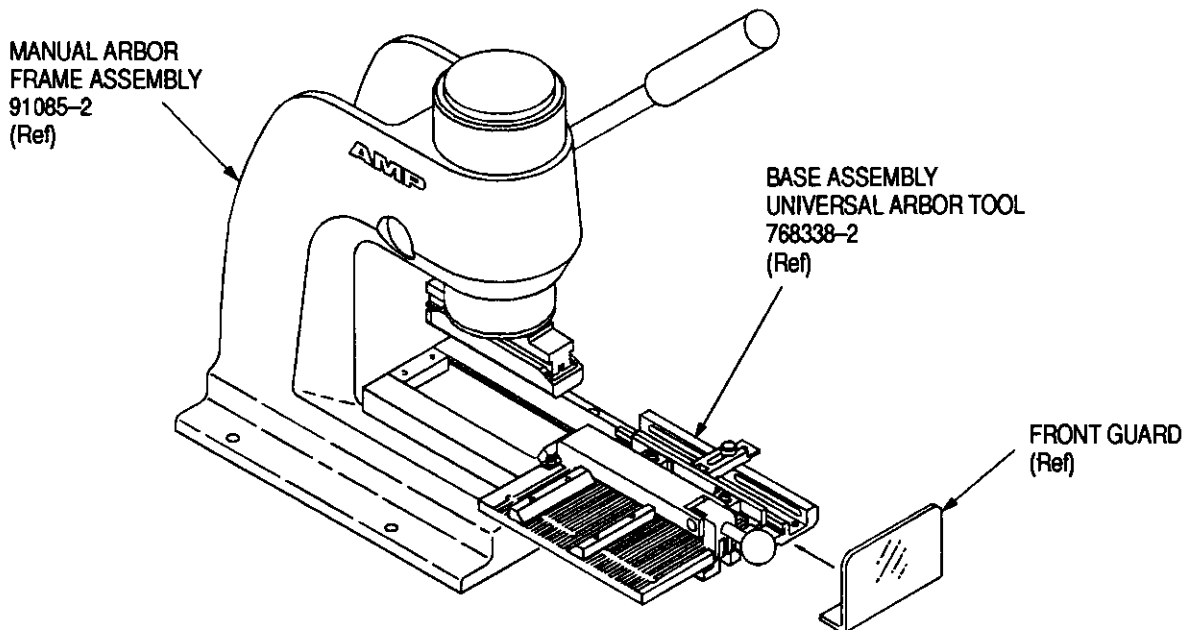

Figure 1
This instruction sheet covers the installation and setup procedures for AMP Connector-Specific Kit 679177-1. The connector-specific kit is used in conjunction with Base Assembly Universal Arbor Tool 768338-2 and AMP Manual Arbor Frame Assembly 91085-2 (see Figure 1), or AMP Pneumatic Auto-Cycle Unit 91112-3 to terminate CHAMP .050 Series I Receptacle Connectors to .64 [.025] centerline ribbon cable.
2. DESCRIPTION (Figure 1)